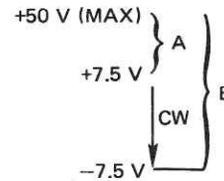

Figure 2-3. Range of Triggering Voltage
20. **TRIG LEVEL Control** – A continuously variable adjustment of the TRIG IN circuitry. When full ccw, approximately a positive going pulse of +7.5 V (A, Figure 2-3) or greater voltage is required for triggering. In the full cw position, a positive going pulse of approximately –7.5 V (B, Figure 2-3) or more positive voltage is required for triggering. In the GATED mode, the generator will begin to run continuously at some position of the control cw past 12 o'clock. When using the MAN TRIG, this control must be ccw of the midpoint.